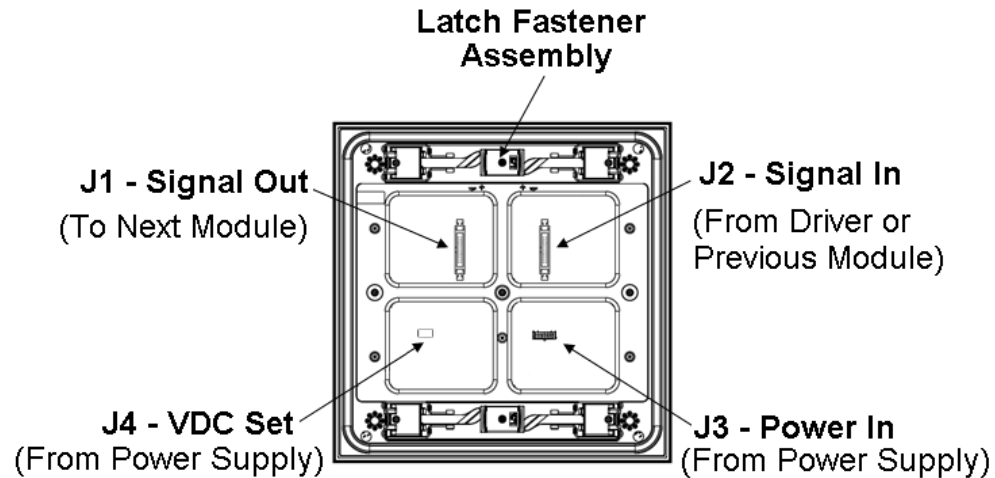

Figure 32: Module, Rear View
2. Use a 1/8" hex wrench to loosen the latch fastener assembly (**Figure 32**). Turn each fastener a quarter-turn clockwise.